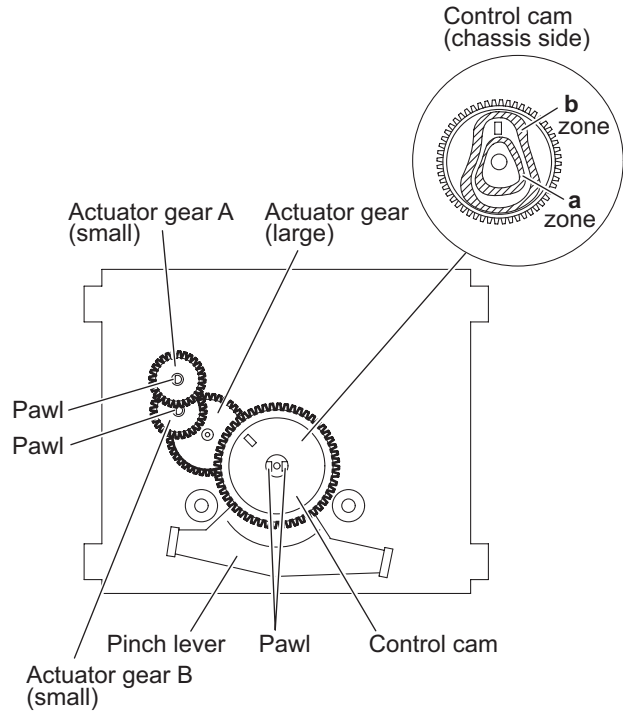

Fig.18
(Fig.18 and 19)**
- (1) Release the control cam from two pawls. (Fig.18)
- (2) For assembling the control cam, fits **a** zone (groove) of control cam to a position of pinch lever and **b** zone (groove) to b position of head base shaft. (Fig.18 and 19)
(Fig.18)**